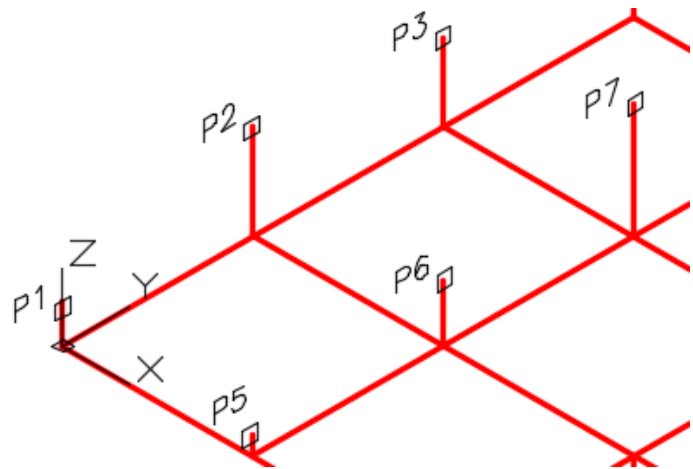

Figure Step 9
Step 9 Set layer: Surface 2 as the current layer and enter the 3DMESH as shown below. (Figure Step 9)